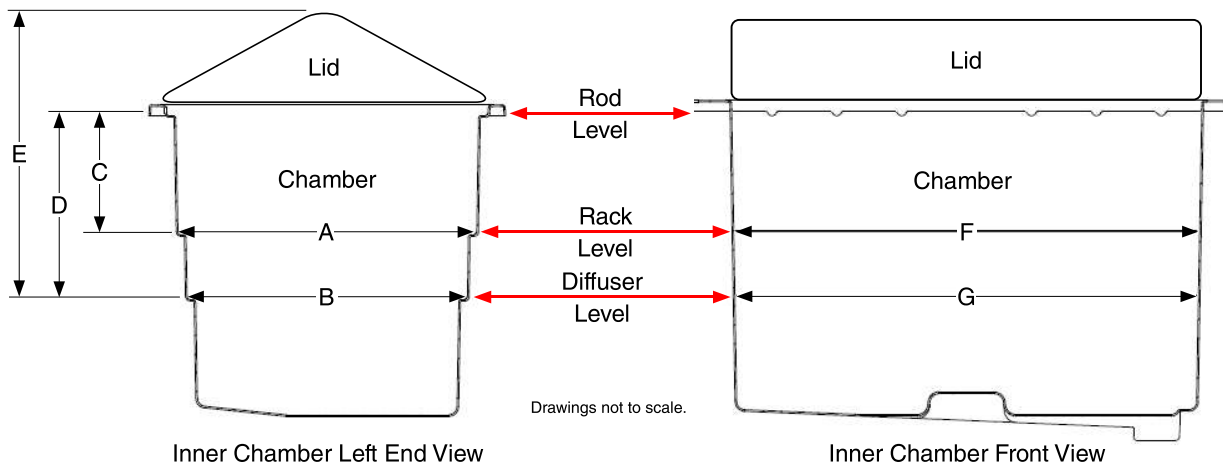

Figure 10.1a: Chamber internal dimensions.
- Q-FOG test chamber internal dimensions listed in the table below correspond with dimensions shown in Figure 10.1a.
1. Rack level grates (Figure 10.2e through Figure 10.2g) mount at the same height as the panel racks (see Figure 10.1a). Use the rack level grates if possible.
2. Diffuser level grates (Figure 10.2h through Figure 10.2j) mount at the same height as the diffuser panels (see Figure 10.1a). Use the diffuser level grates if parts are too tall for the rack level grates.